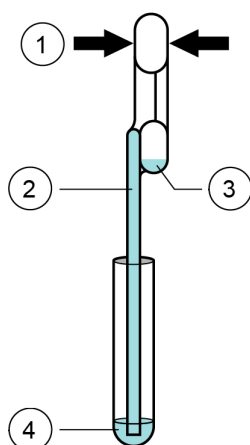

Figure 20. Cartridge Preparation Screen
8. The Cartridge Preparation screen appears (see Figure 20).